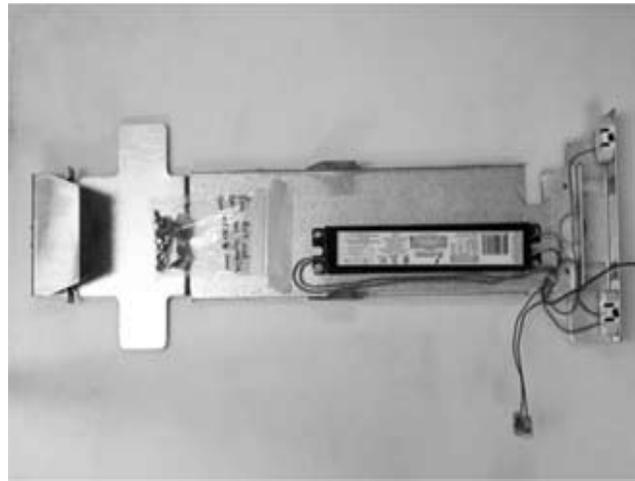

Figure 40.
- E. Locate the bracket with the ballast attached, see Figure 40.